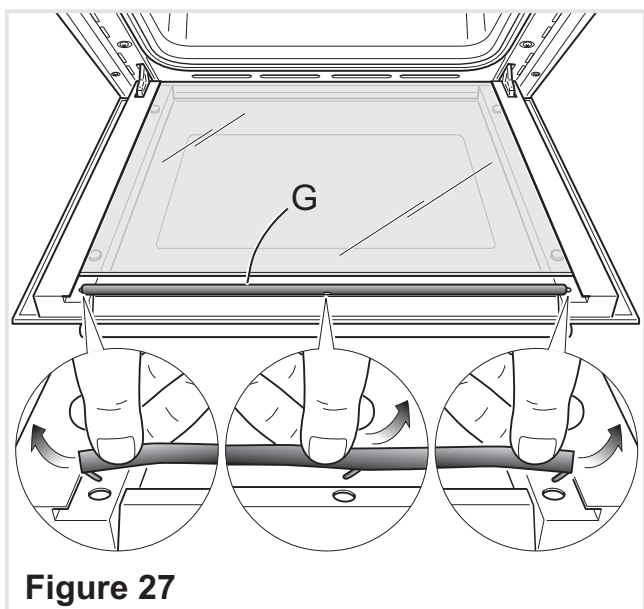

Figure 27
- Remove the seal "G" by unhooking the no. 3 fixing hooks (fig. 27).